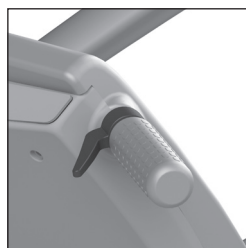

Figure 16 Control handle.
- The Nemo is equipped with a tilting function up to a maximum of 30° backwards. This function can be operated by pressing the control handle. The seat element will then tilt (See figure 16).
- To tilt the Nemo forwards the control handle can be used again (See figure 16).